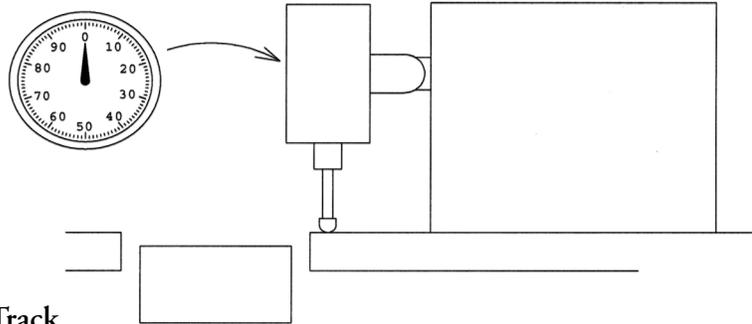

Figure 2
- Twist the rim of the dial face until the zero mark aligns with the indicator needle as shown in Figure 2 below.